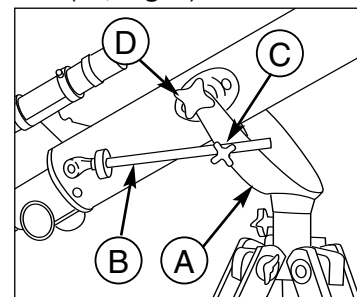

Fig. 2 Mounting the optical tube assembly: (A) azimuth mount; (B) altitude rod; (C) altitude coarse adjustment control; (D) vertical lock knob.
6. Remove the two vertical lock knobs (D, Fig. 2) from the optical tube assembly.
7. Place the optical tube between the forks of the azimuth mount (A, Fig. 2), oriented as shown in Fig. 2.
8. Slide the altitude rod (B, Fig. 2) into the hole in the altitude coarse adjustment control assembly (C, Fig. 2). Tighten to a firm feel.
9. Thread a vertical lock knob (D, Fig. 2) through each of the holes in the forks of the azimuth mount (A, Fig. 2) and tighten to a firm feel.